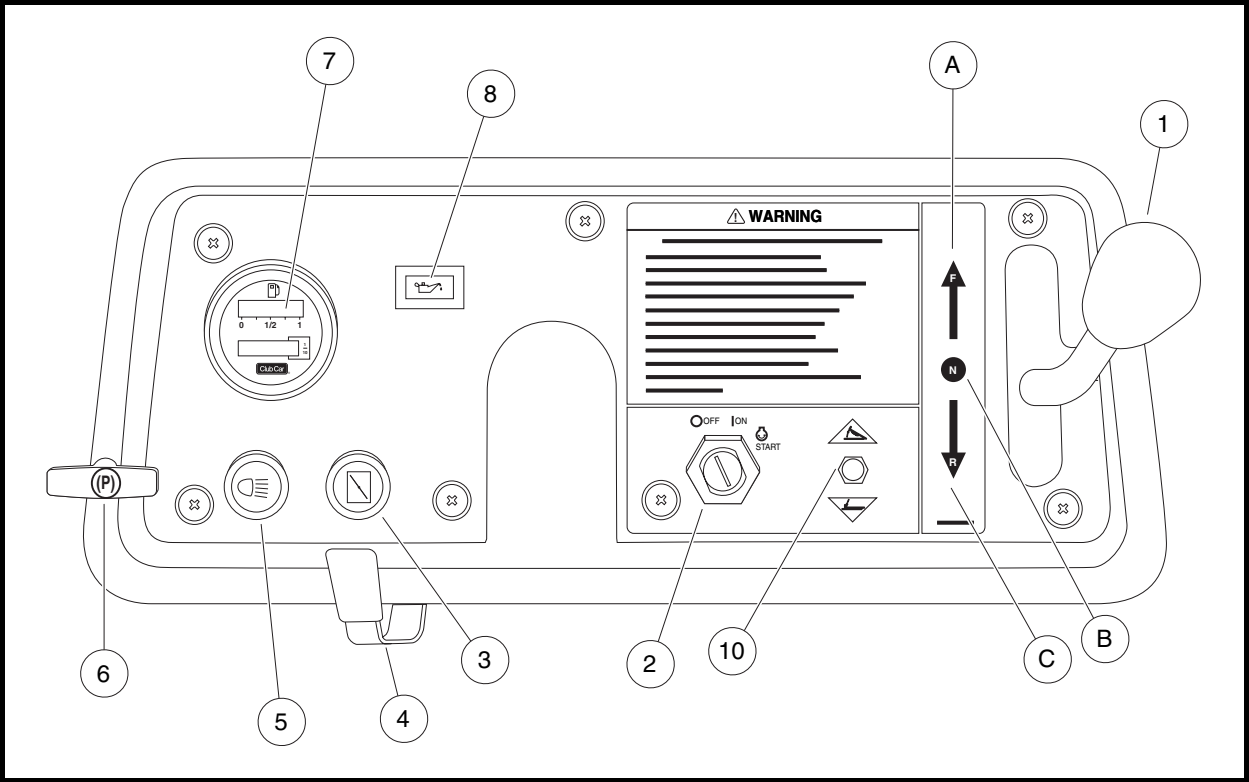
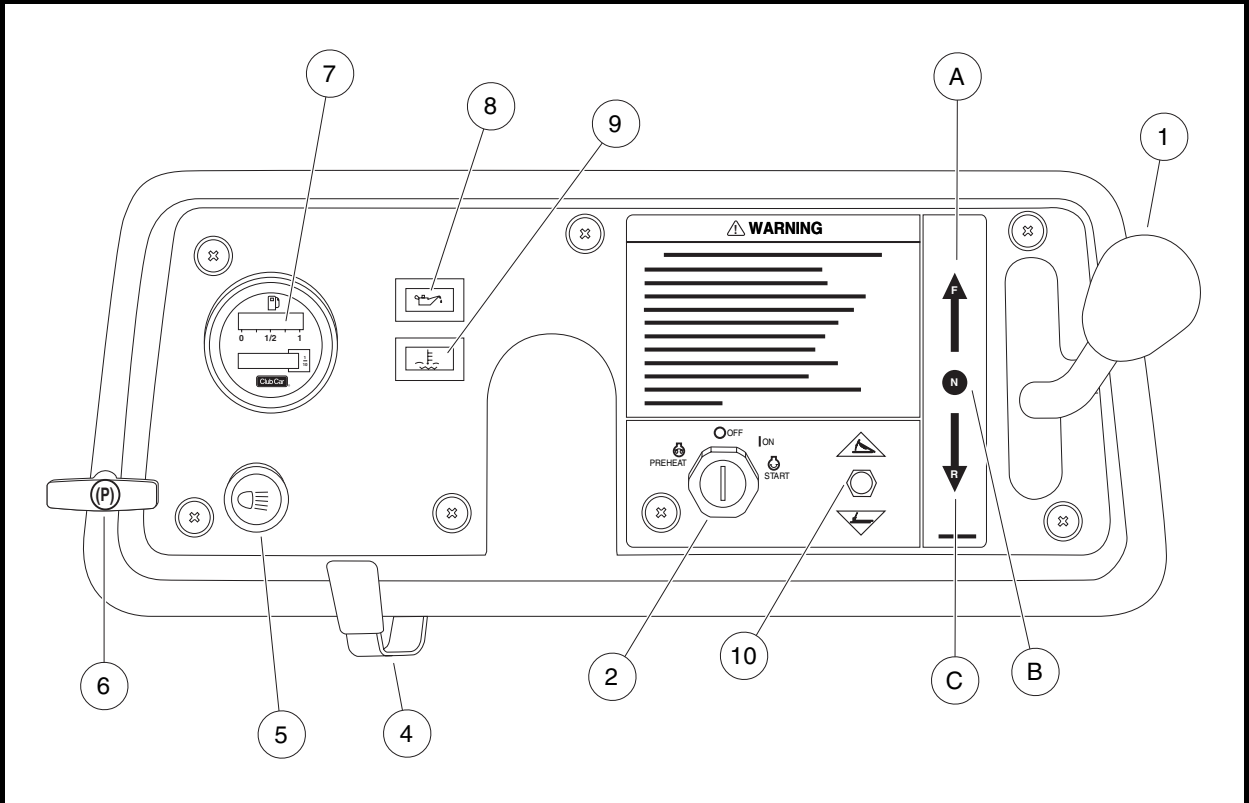

Figure 4 Instrument Panel – Gasoline Vehicles
Figure 5 Instrument Panel – Diesel Vehicles
The key switch (2) is mounted on the instrument panel to the right of the steering column (**Figure 4**). It has three positions: OFF, ON, and START. To start the vehicle, place the Forward/Reverse handle in the NEUTRAL position and turn the key all the way to the START position, activating the choke (3) as necessary, and hold until the engine starts. If the engine does not start after 10-15 seconds, release the key and repeat the procedure. Once the engine starts, release the key and it will return to the ON position. The engine will idle in neutral. The engine will continue to idle until the key is turned to the OFF position. **See following WARNING, CAUTION and NOTE.**
The key switch (2) is mounted on the instrument panel to the right of the steering column (**Figure 5**). It has four positions: PREHEAT, OFF, ON, and START. To preheat glow plugs in cold weather, turn the key to the PREHEAT position and hold for 10-15 seconds. Then turn the key all the way to the START position and hold until the engine starts. If the engine does not start after 10-15 seconds, return the key to the OFF position and repeat the procedure. Once the engine starts, release the key and it will return to the ON position. The engine will idle in neutral. The engine will continue to idle until the key is turned to the OFF position. **See following WARNING, CAUTION and NOTE.**
The Forward/Reverse handle (1) is located on right-hand side of the instrument panel. The handle has three distinct positions: FORWARD (A), NEUTRAL (B), and REVERSE (C) (**Figure 4 or Figure 5**). Push the handle up to operate the vehicle in the forward direction, or pull the handle down to operate the vehicle in reverse. The engine can be started only when the handle is in the NEUTRAL (middle) position. The engine must be at idle before shifting the Forward/Reverse handle. **See WARNING and CAUTION beginning on page 17.**
The low oil warning light (8) is located on the instrument panel just to the left of the steering column (**Figure 4 or Figure 5**). If the warning light comes on, oil should be checked and added to the engine as necessary before continuing to use the vehicle. The vehicle should never be driven when the low oil warning light remains on. If the warning light goes on and off, the vehicle may be driven, but oil should be added at the first opportunity. If the oil level is correct and the warning light stays on, have a trained technician check the vehicle. **See following CAUTION.**
The fuel gauge and hour meter (7) are housed together at the left side of the instrument panel (**Figure 4 or Figure 5**). The fuel gauge operates when the key switch is in the ON position, and allows the operator to monitor the fuel level in the vehicle. The hour meter operates only when the engine is running, and should be used by the trained technician to track vehicle usage and determine when periodic service procedures are required. **See Periodic Service Schedule on page 34.**
The headlight control (5) is located on the left side of the instrument panel below the fuel gauge/hour meter (**Figure 4 or Figure 5**). Pull the headlight control knob out to turn headlights on and push the knob in to turn headlights off.
The steering wheel on the Carryall 294 and Carryall 294 SE vehicle is adjustable. To adjust the steering wheel, press down on the steering adjustment lock lever (4), then move the steering wheel to the desired position (**Figure 4 or Figure 5**). While holding the steering wheel in the desired position, pull up on the steering adjustment lock lever to firmly lock the steering column in position.
The electric bed lift switch (10) is located on the instrument panel to the right of the key switch (**Figure 4 or Figure 5**). To lift the bed, pull up and hold the toggle switch in the upper position. Release switch to stop lifting operation. To close the bed, press down and hold switch in the lower position. The bed lift will make a loud clicking sound to signal the bed is in the rest position.
The choke (3) is located on the instrument panel to the left of the steering column. If the vehicle is hard to start in cool or cold temperatures, activate choke: Pull the choke handle out to activate. Release the handle when the engine begins to run smoothly (**Figure 4**).